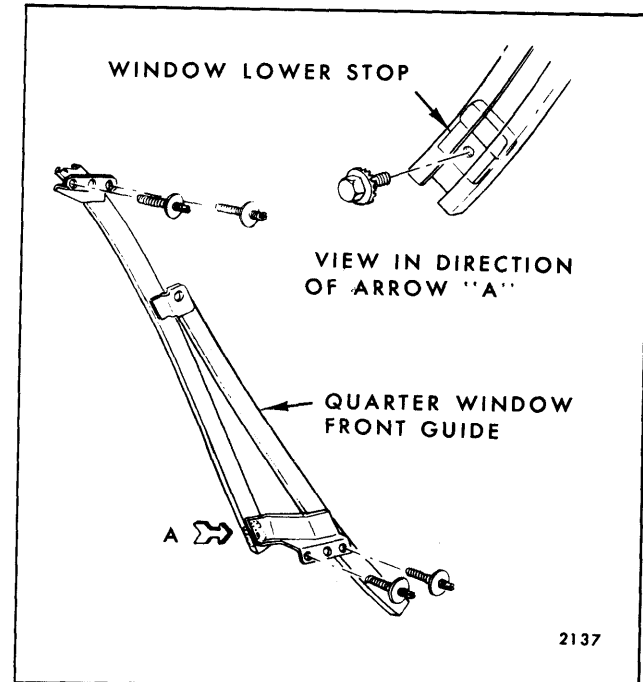

Fig. 7-50—Rear Quarter Window Lower Stop Adjustment - Styles so Equipped
**NOTE:** The rear channel of the front guide of most styles is equipped with an adjustable lower stop to control height of quarter window in the lowered position (see Fig. 7-50).